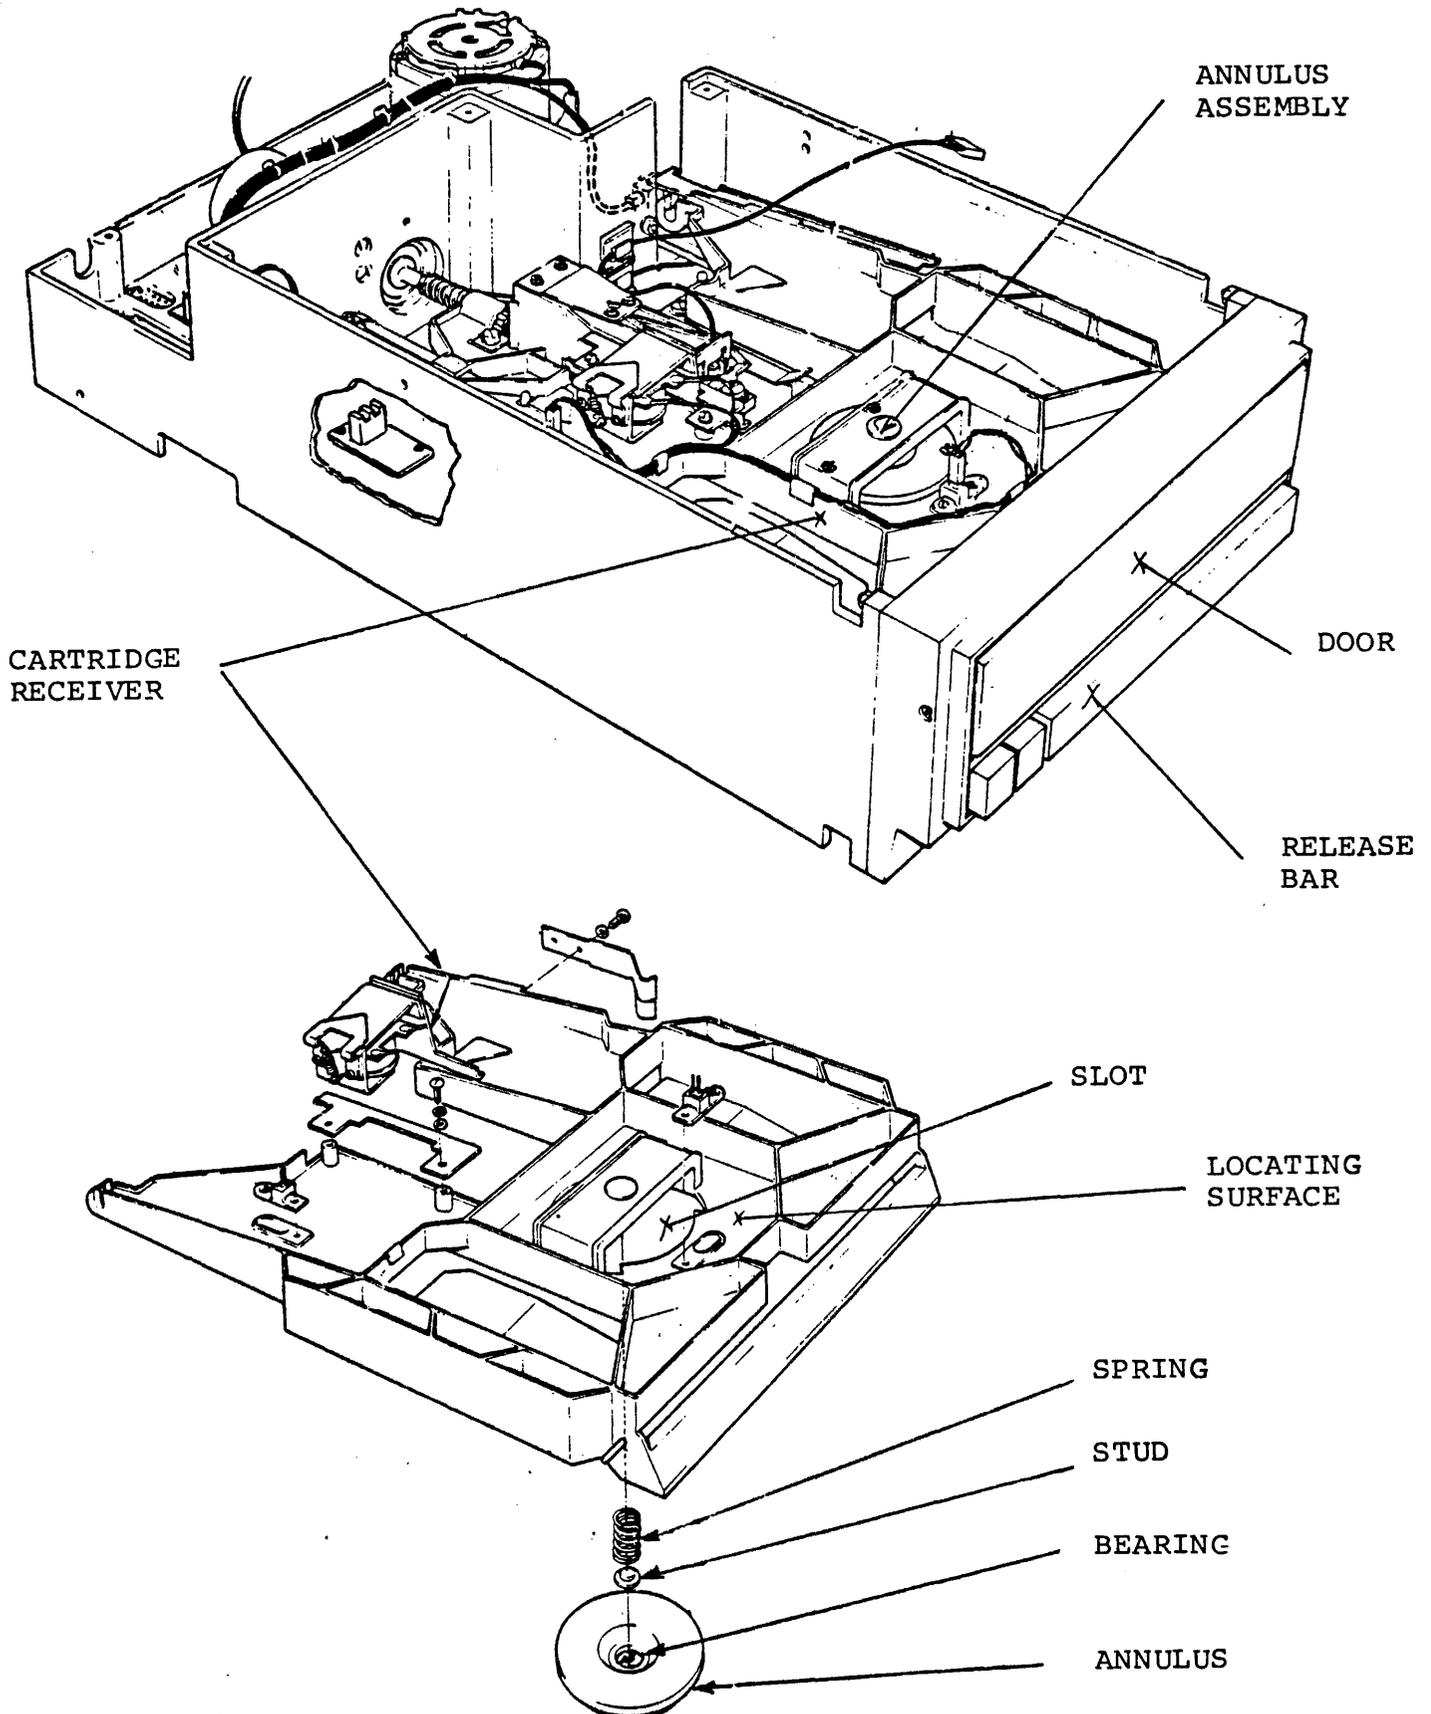

FIGURE 1 : CARTRIDGE RECEIVER AND ANNULUS ASSEMBLY.
5. Remove the spring and stud. (See Figure 1)